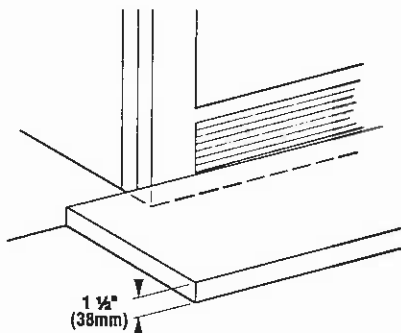

Figure 54
**WARNING: FIREPLACE MUST BE RAISED IF THE HEIGHT OF THE HEARTH EXTENSION EXCEEDS 1 ½" (38mm) ABOVE THE BOTTOM OF THE FIREPLACE (FIGURE 54).**